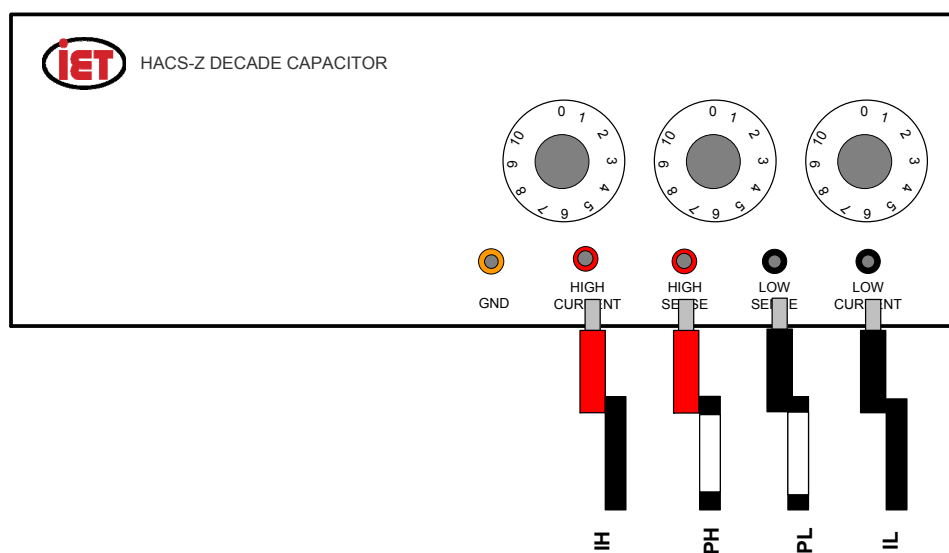

Figure 3-18: Connection to HACS-Z BP terminals with 1657-9600 Extender Cable or 7000-04 cable (without alligator clips)
- 1657-9600 Extender Cable or 7000-04 Alligator Clip Leads (see Figure 3-18)